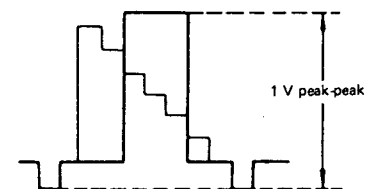

Figure 2-6
3. Adjust R209 (playback level control) so that the output waveform is as shown in Fig. 2-6.